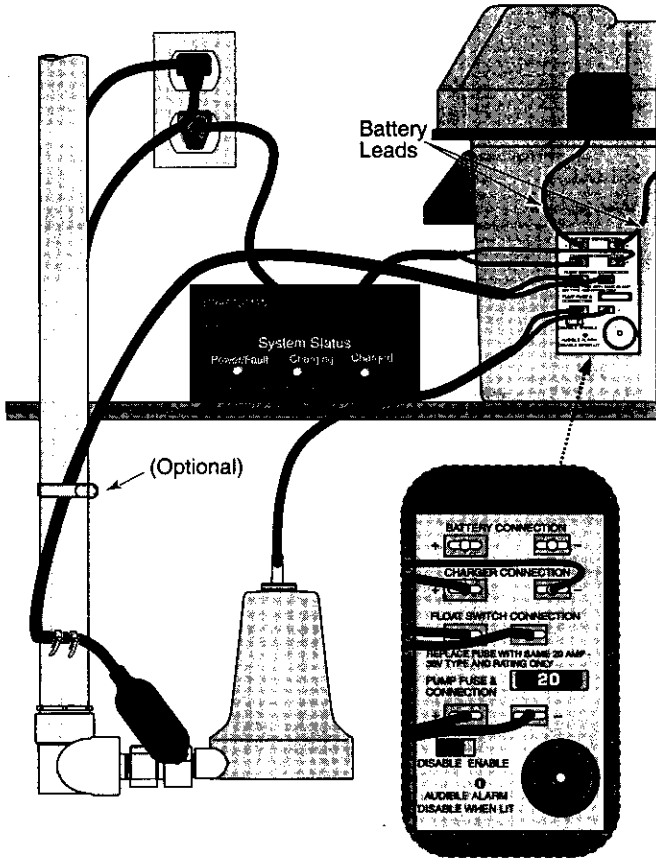

Figure 5 - Wiring Connections
1. Apply two pieces of two-sided tape (provided, Key No. 11, Page 9) to the back of the junction box. Press the junction box onto the battery box as illustrated in Figure 5 (below) and on Page 9 (Exploded View).
2. Connect the charger as shown in Table I and Figure 5.